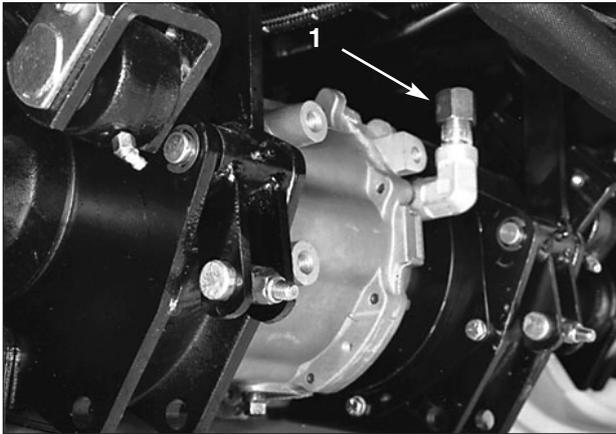

Figure 7
3. Unscrew the dipstick cap (Fig. 7) from the filler neck and wipe it with a clean cloth. Screw the dipstick cap finger tight onto the filler neck. Unscrew the dipstick and check the level of lubricant. If the level is not within 12mm (1/2 in.) from the groove in the dipstick, add enough to raise the level to the groove mark. **DO NOT OVERFILL** by more than 12mm (1/2 inch) above the groove.